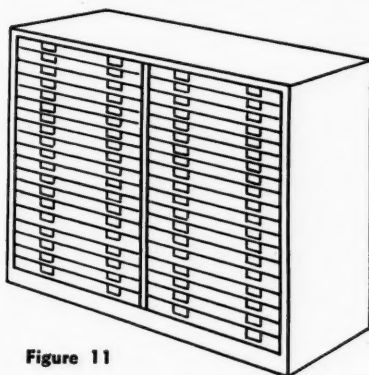

Figure 11
5. The use of drawer sections with drawers similar in size to type cases. Many such drawer units are converted type cabinets. See Figure 11.